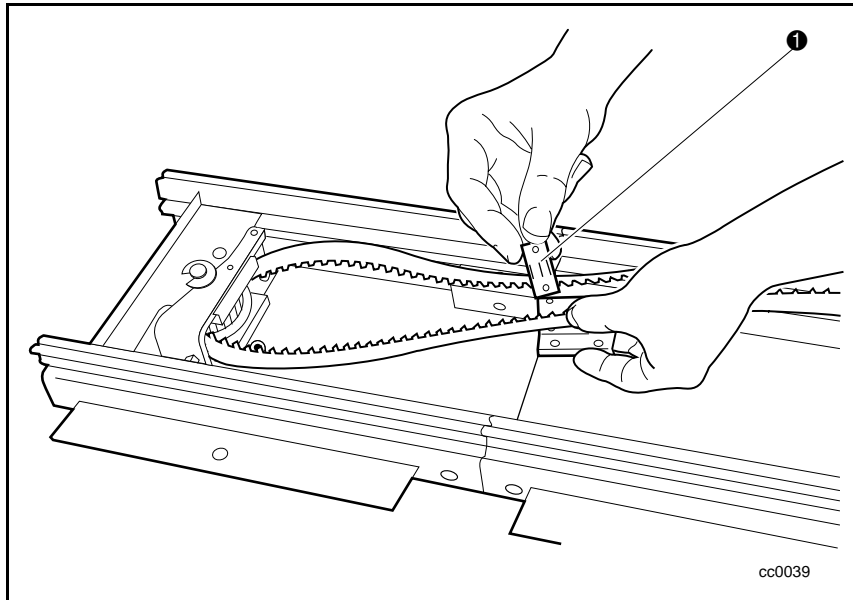

Figure C-20. Attaching the belt clamp bracket
4. Attach the belt clamp bracket to the belt on the side closest to the PTM motor housing assembly. Make sure one tooth of the belt fits tight in the space in the bracket (❶ Figure C-20).